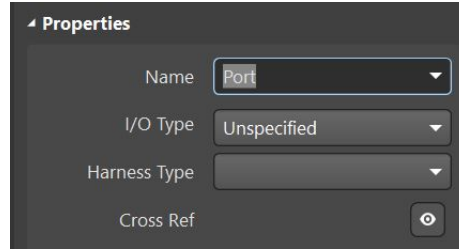

Figure 19: Adjusting the Port Settings
3. Double click the port to open up the settings, as shown in Figure 19. Change the port name to the name of the net you would like. Set the I/O Type to either input, output, or bidirectional depending on what the pin should be doing. Output ports point away from the pin and input ports point toward the pin.